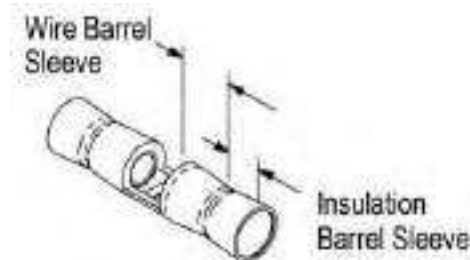

Figure 217
- d. Insert wire conductor through the insulation barrel sleeve and into the wire barrel sleeve until it is flush with the outer edge of the wire barrel sleeve (Figure 217).